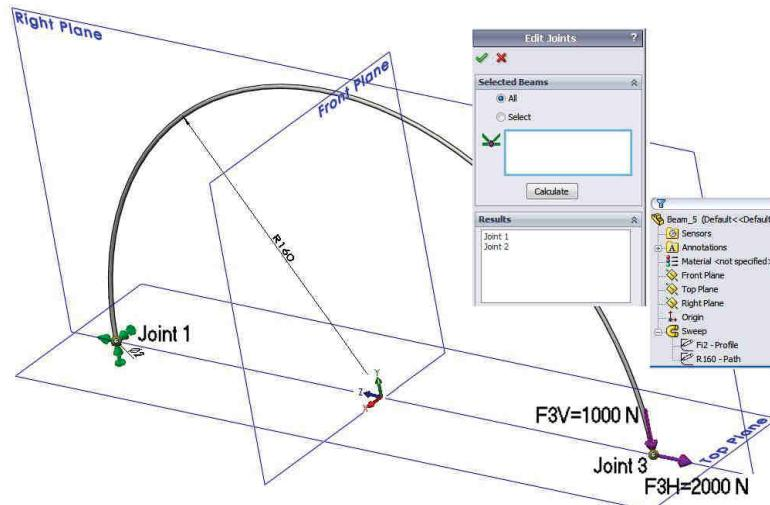

Fig. 8.2
- The 3D geometry is shown in fig. 8.2 and was generated by a **Sweep** command, based on semicircle R 160 mm as **Path**, drawn in **Right** plane with origin point as centre and the circle  $\phi 2$  mm as **Profile**, centered in one semicircle end point.
- În secțiunea **Edit Joints** PropertyManager sub zona **Selected Beams**, click **Calculate**, fig. 8.2. Două noduri vor apărea sub **Results**.
- In the **Edit Joints** PropertyManager under **Selected Beams**, click **Calculate**, fig. 8.2. Two joints appear under **Results**.
- Selectie nod **Joint1**, fig. 8.2.
Click dreapta pe ramura **External Loads** și selecție **Force**, fig. 8.2.
- Select the joint **Joint1**, fig. 8.2.
Right-click the **External Loads** folder and select **Force**, fig. 8.2.